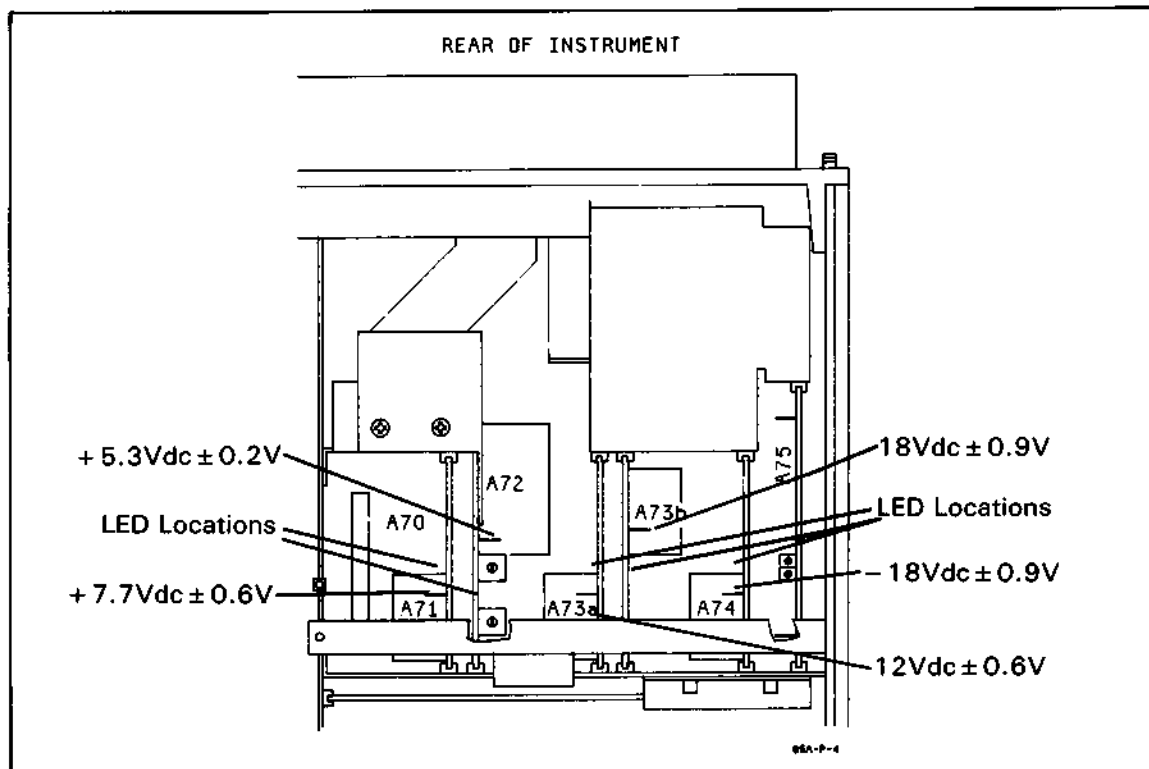

Figure 11-P-4. Power Supply Voltage Indicators And Test Points
- B. Are the five green LED's on Power Supply boards A71-74 lit (Figure 11-P-4) and the yellow LED's off.
- 1. If the green LED's are on and the yellow LED's off then go to step C. Note that the Power Supply voltages can be incorrect even when the green LED's are on; therefore, if there is a question about one of the Power Supplies check them against those in Figure 11-P-4.